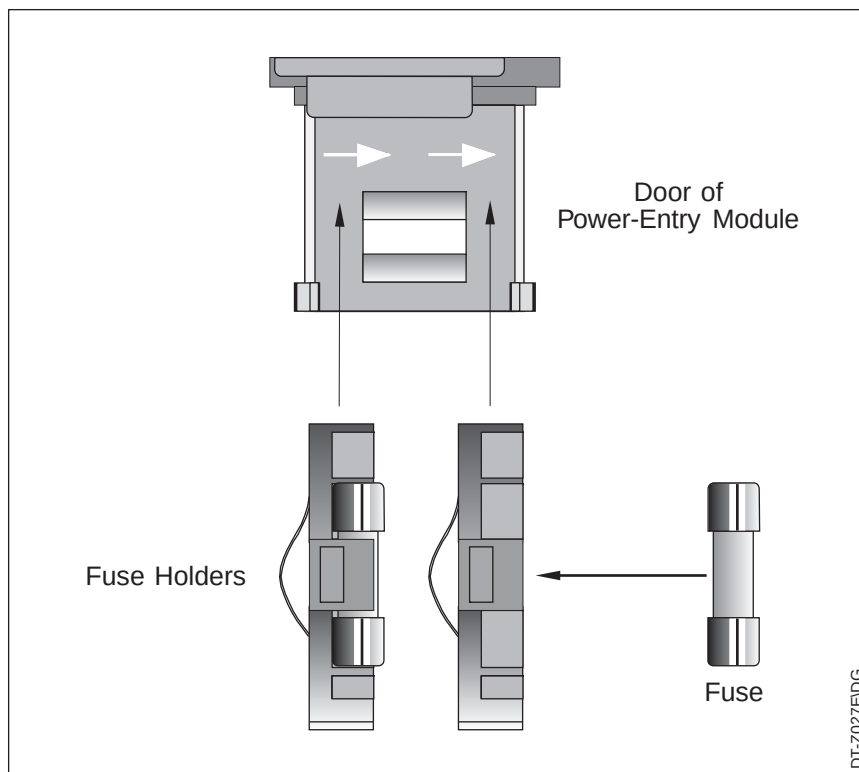

Figure 1.3 Fuses
3. Assuming that you have the proper fuses on hand, reinsert the fuses and fuse holders, making sure that the arrows on the holders are oriented in the same direction as the arrow inside the cover panel (Figure 1.3).